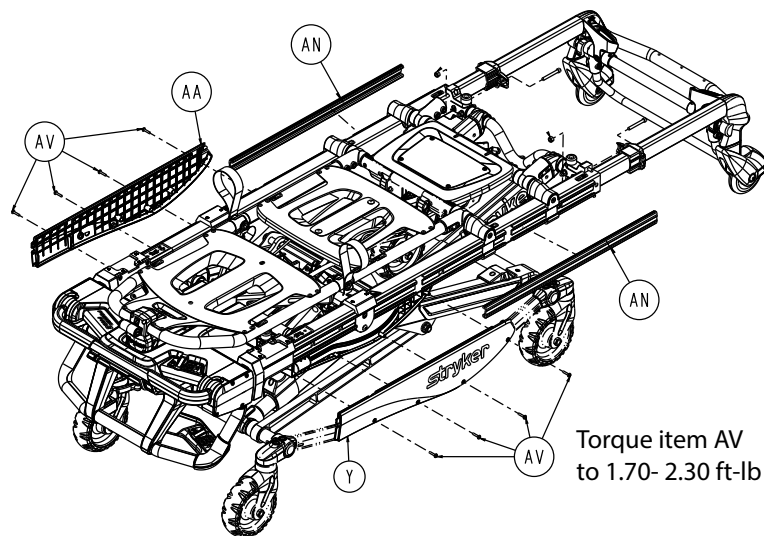

Figure 33 – Remove the screws and slider block cover
4. Using a T25 Torx driver, remove the four round washer head tapping screws (AV) and slider block cover (Y or AA) on the side where you are replacing the siderail (Figure 33). Save the screws and slider block cover.
5. Using a slotted screwdriver, remove the outer rail bumper (AN) (Figure 33). Save the outer rail bumper.